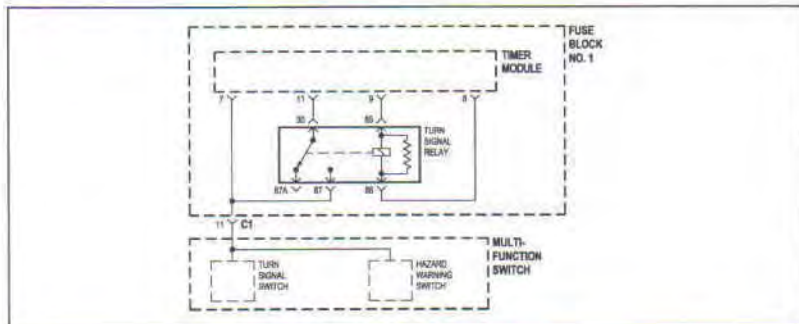

Figure 8 Turn Signal Relay Circuit
The turn signal (B) relay powers the turn signal and flasher circuits. The activation of the turn signal relay, and the flashing of the lights is controlled electronically by the Timer Module in Fuse Block No.1. The Timer Module (not to be confused with CTM) is also known as the Wiper/Turn Signal/Engine Start Control Module (Figure 8).
Answer questions 1 through 4 using the turn signal diagram in Figure 8.